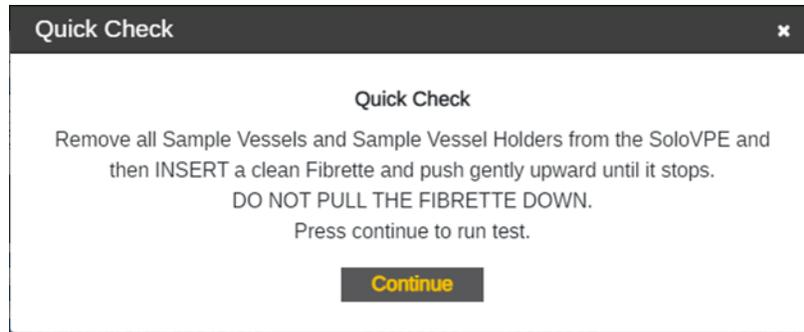

Figure 22. Prepare for Quick Check window prompt and requirements.
2. Quick Check will present a prompt instructing the user on how to prepare the Fibrette Optical Component and SoloVPE System for the test (see Figure 22). It is critical that the test is run under the following conditions: